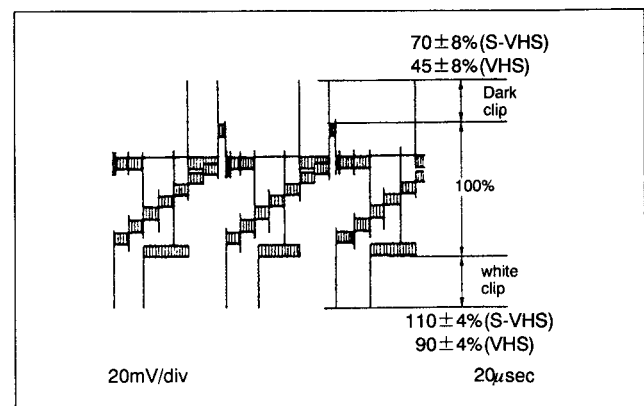

Fig.3-4-4 White/dark clip
- (1) Connect an oscilloscope to TP205.
- (2) Set EVR mode by pressing "K" button of the presetting unit more than 2 seconds.
- (3) Set "A : 14" pressing 1 and 4 numeric keys of the remote controller.
- (4) Adjust TV PROG "-" or "+" button for $110 \pm 4\%$ (S-VHS), $90 \pm 4\%$ (VHS) white clip and $70 \pm 8\%$ (S-VHS), $45 \pm 8\%$ (VHS) dark clip as shown in Fig.3-4-4.
- (5) Set normal VCR mode by pressing "K" button of the presetting unit again so adjustment data is memorized.